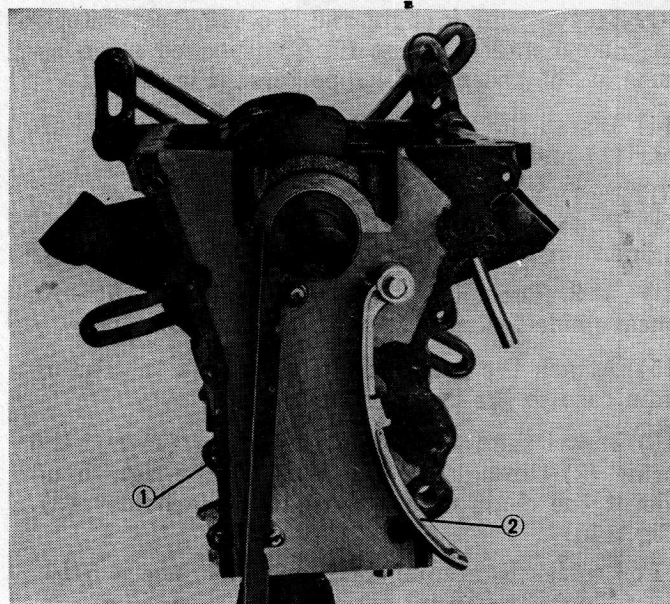

Fig. 107 Installing the Tensioner Lever
(11) Rotate the crankshaft so No. 1 cylinder piston is at the top dead center.
(12) Place the cylinder block upside down and install the timing chain guide (1) and the tensioner lever (2). (Fig. 107)